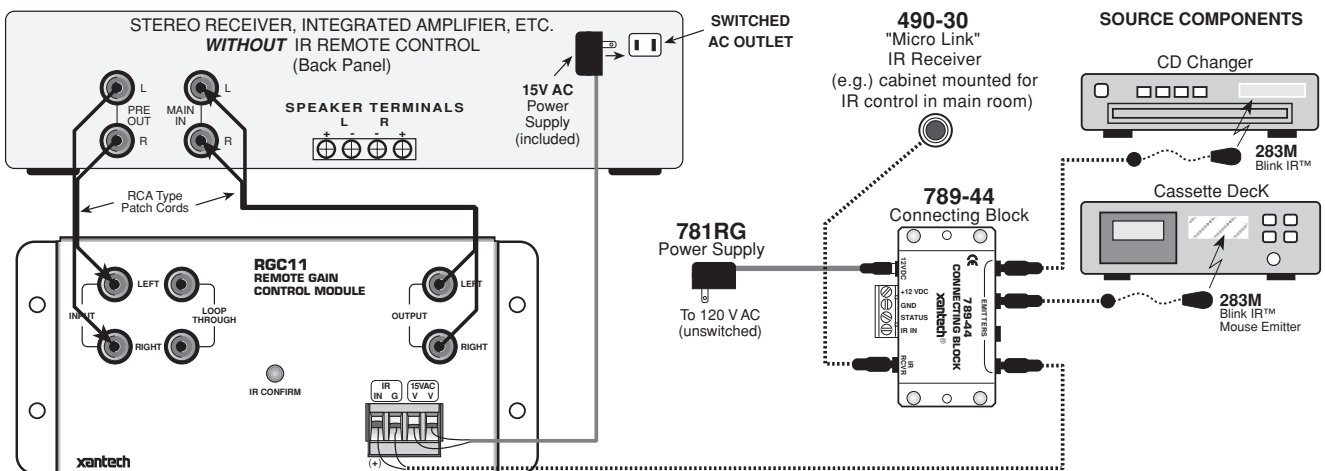

**Fig. 5** Daisy-Chaining 793-00's in Multiple RGC11 Dedicated IR Bus Systems
For systems using more than five RGC11's, you will need additional 793-00's. These can be easily "daisy chained" as shown in **Fig. 5**.
**Fig. 5** illustrates how two 793-00 Serial Control Combiners are "Daisy-Chained" to accommodate additional RGC11's in a dedicated IR Bus System. This process can be repeated as necessary to accommodate the number of RGC11's needed in the system. Simply plug the "B" CONTROL OUTPUTS port of the added 793 into the "A" CONTROL OUTPUTS port on the preceding 793 with a 3.5-to-3.5mm mono-mini cable as shown.